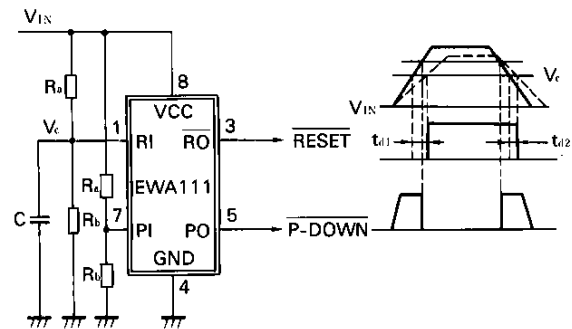

Fig. 8 Signal timing delay circuit
In the examples shown so far, the IC [RESET] and [P-DOWN] signal timings depend on the rise and fall characteristics of the system power supply. However, when it is difficult to obtain the required timing (especially, delayed output timing) only by the rise and fall characteristics of the system power supply. The required timing can be obtained by using an application circuit shown in Fig. 8 to delay EWA111 signal timings. The delays  $t_{d1}$  and  $t_{d2}$  can be calculated roughly using formulas (7) and (8).